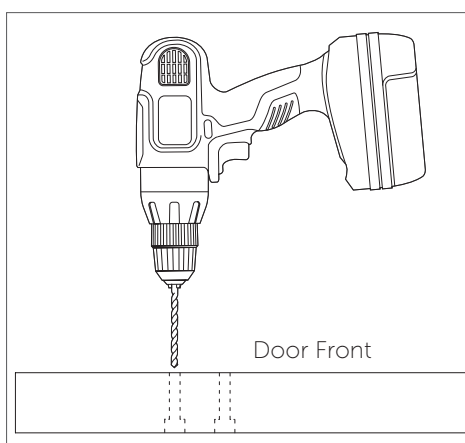

Figure 4
7. Turn the door over. Using a 7/8" Forstner bit\*, drill a 7/16" deep hole into each pilot hole. (Figure 4).
8. Turn the door over, returning it to the face-up position. Drill all the way through the pilot holes using a drill with a 1/2" drill bit. (Figure 4).